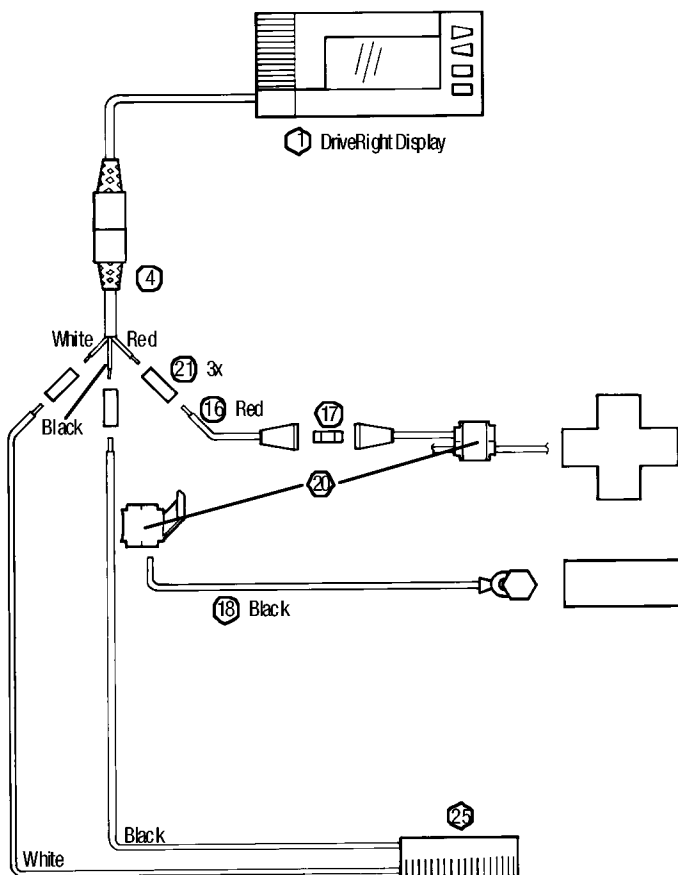
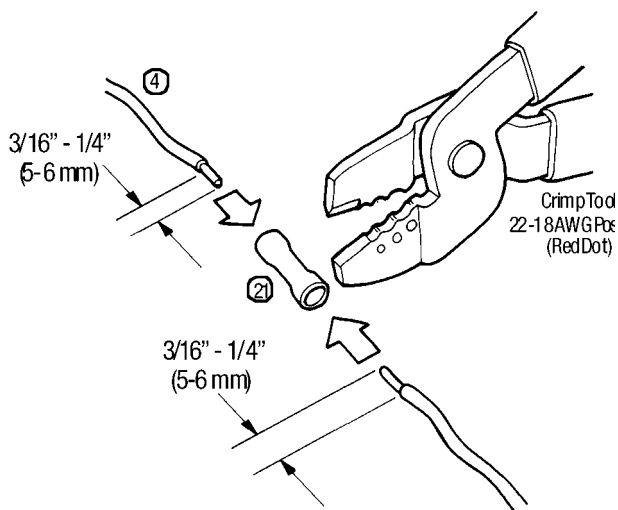
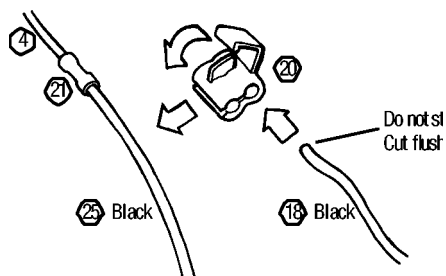

Figure 21: Making Final Connections
Figure 22: Crimping the Butt Connectors
Figure 23: Splicing Ground Together
Make final connections (Figure 21). Use the butt splices (21) to connect the white sensor lead to harness cable white wire, the black sensor lead to harness cable black wire, and the red +12V wire w/ fuseholder to harness cable red wire (Figure 22). Stripped wire ends should be 3/16" - 1/4" (5-6 mm). Use an in-line splice to connect the black ground wire to the black sensor lead near the butt splice (Figure 23). Install fuse (17) in fuseholder. Use a small tie wrap to secure and protect the connections under the dash.